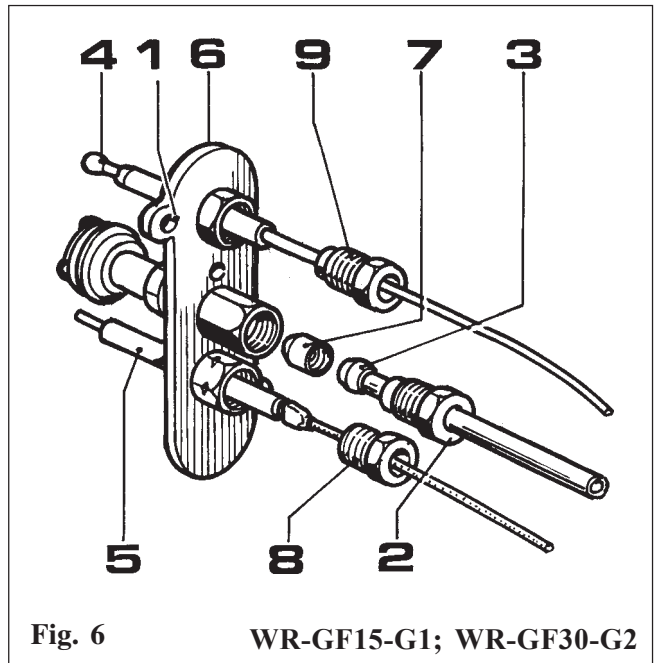

Fig. 6
- Change the pilot assembly (Fig. 6 position 6).